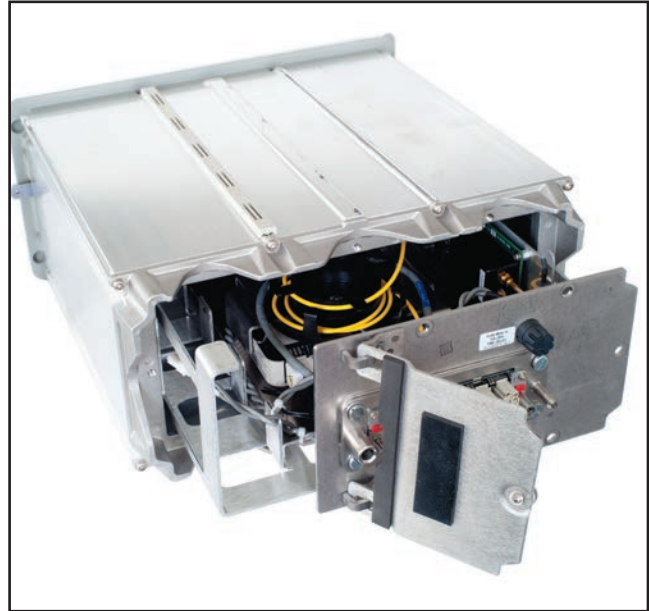

Figure 8. Removing the radio tray assembly.
- STEP 2.** Remove the five  $\frac{1}{4}$ -20 bolts that attach the radio tray assembly using a  $\frac{3}{8}$ -inch nut driver. Retain the bolts. See Figure 8.